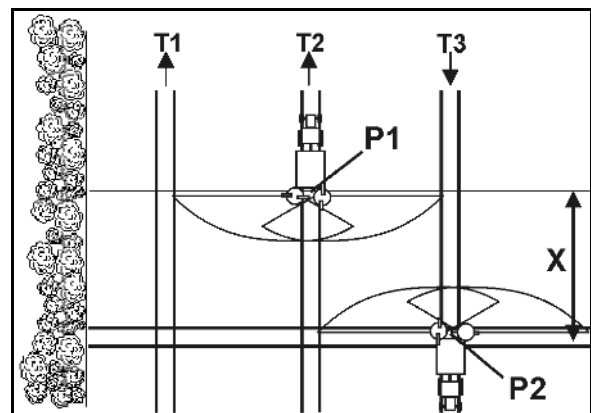

Fig. 107
- Open the slide gate after entering the tramline at point **P1** (Fig. 107), when the spreader discs are at distance X from the tramline of the headland.
- Close the slide gate before leaving the tramline at point **P2** (Fig. 107), when the spreader discs are located at the level of the first tramline of the headland.